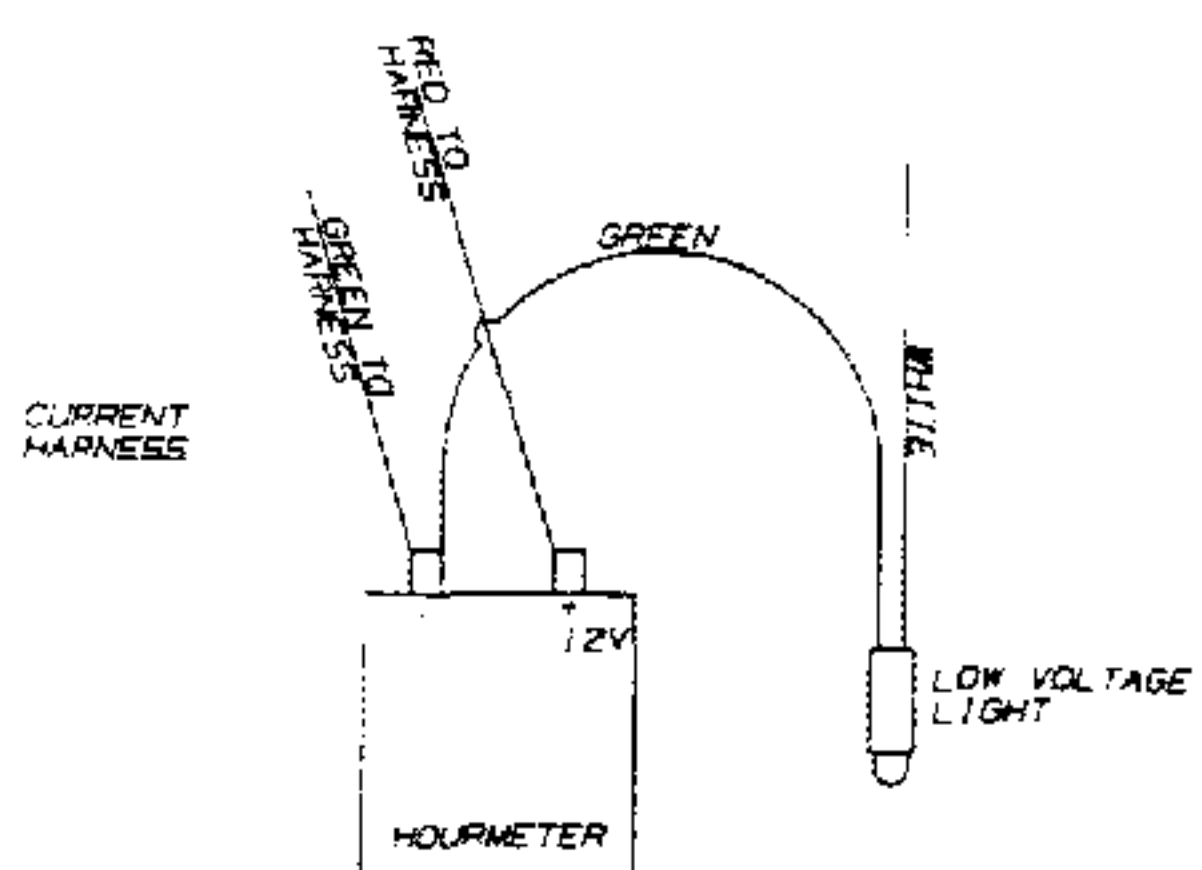

Fig. 1
The low voltage light on the above serial numbered tractors have been improperly wired. It is currently wired as shown in figure 1. See below. As it is wired now the bulb will never illuminate should the battery become discharged.
- 1) Snip the green wire that runs from the low voltage light to the negative side of the hour meter, as close to the hour meter as possible. (See Fig. 1)